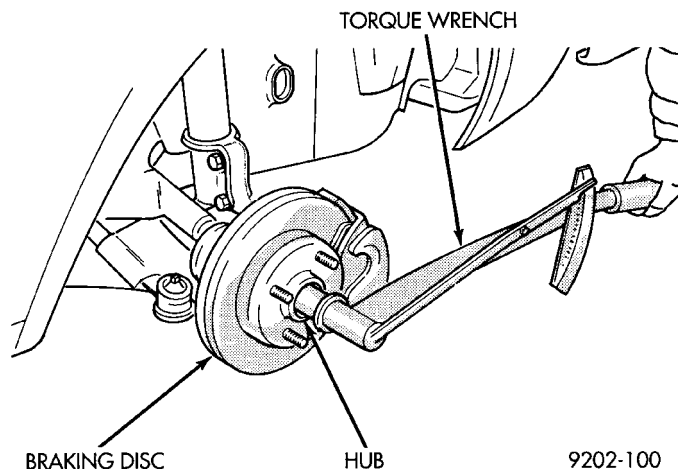
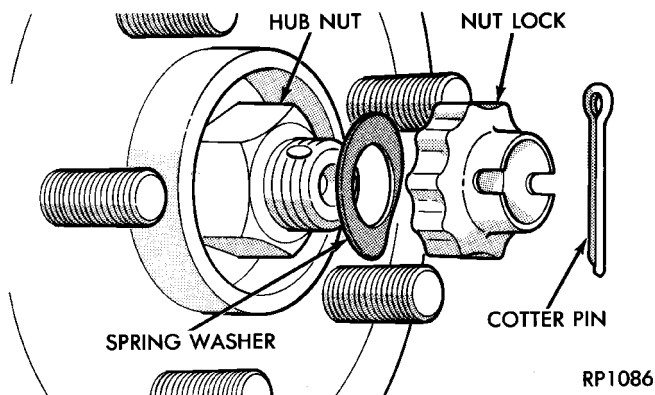
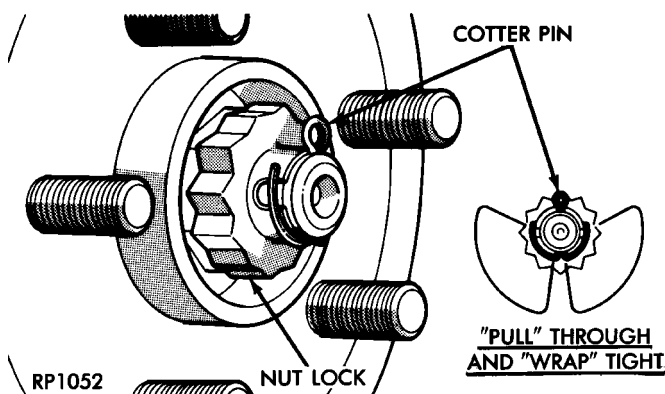

Fig. 29 Torquing Front Hub Nut
Fig. 30 Spring Washer, Nut Lock, And New Cotter Pin
Fig. 31 Cotter Pin Correctly Installed
(10) With vehicle brakes applied to keep braking disc from turning, tighten hub nut to a torque of 183 N·m (135 ft. lbs.) (Fig. 29).
(11) Install front wheel and tire assembly. Install front wheel lug nuts and torque to 135 N·m (100 ft. lbs.).
(12) Lower vehicle.
(13) Install the spring washer, hub nut lock, and new cotter pin (Fig. 30). Wrap cotter pin prongs tightly around the hub nut lock (Fig. 31).
(14) Set front Toe on vehicle to required specification. Use procedure listed under Wheel Alignment, in the Front Suspension Service Procedures section of this service manual.